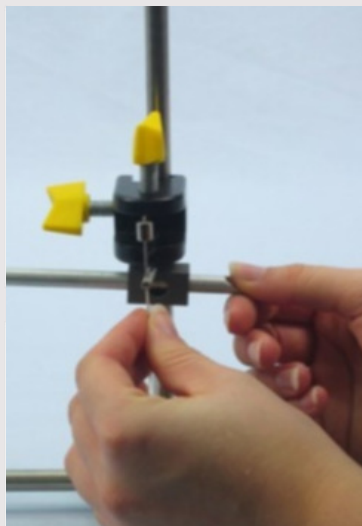

Fig. 9
9. Place the rolling axle with pointer between the boss head and the collar for linear expansion (**Fig. 9**).